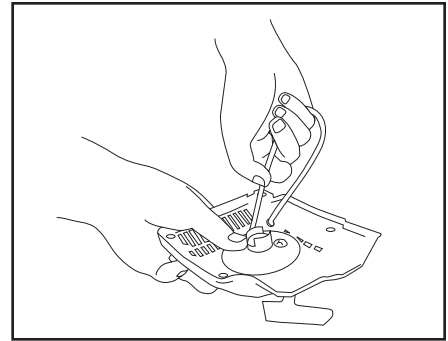

Figure 3
- Lift the starter cord up into the notch on the starter pulley (Figure 3) and wind the pulley clockwise 5 full turns. Remove the cord from the pulley notch while pinching the pulley. Release the pulley slowly allowing it to wind the rope counterclockwise onto the pulley.